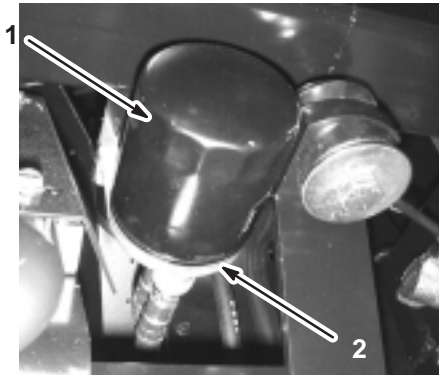

Figure 31
2. Remove the old filter (Fig. 31).
3. Wipe the filter adapter gasket surface (Fig. 31).
4. Apply a thin coat of new oil to the rubber gasket on the replacement filter (Fig. 31).
5. Install the replacement oil filter to the filter adapter. Turn the oil filter clockwise until the rubber gasket contacts the filter adapter, then tighten the filter an additional 1/2 turn (Fig. 31).